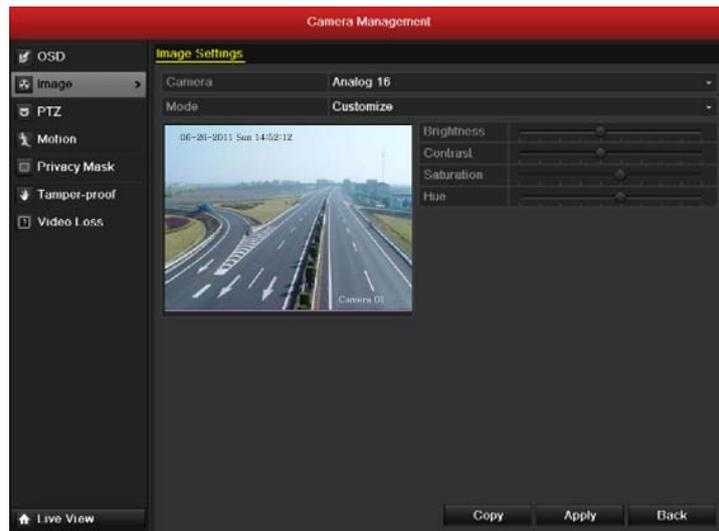

Figure 11.6 Configure Customized Image Settings
4. When the mode is selected to Customize, you can adjust the video parameters, including Brightness, Contrast, Saturation and Hue, as shown in Figure 11.6.